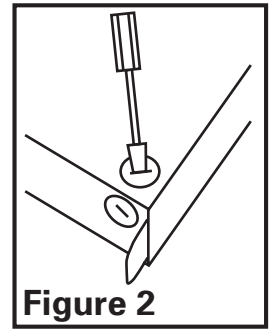

Figure 2
- Select the most convenient electrical knockout and remove using a straight-blade screw driver (Figure 2).